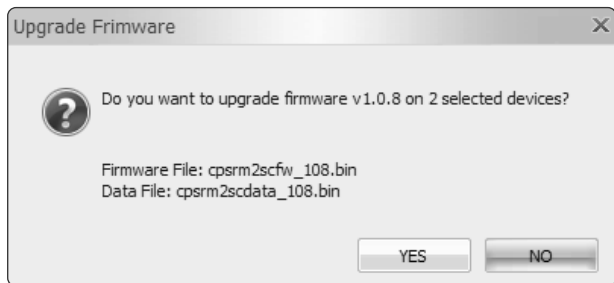

Figure 7. Confirm Upgrade Firmware message window
7. Click “Yes” to start firmware upgrade on selected devices, as shown in Figure 7.